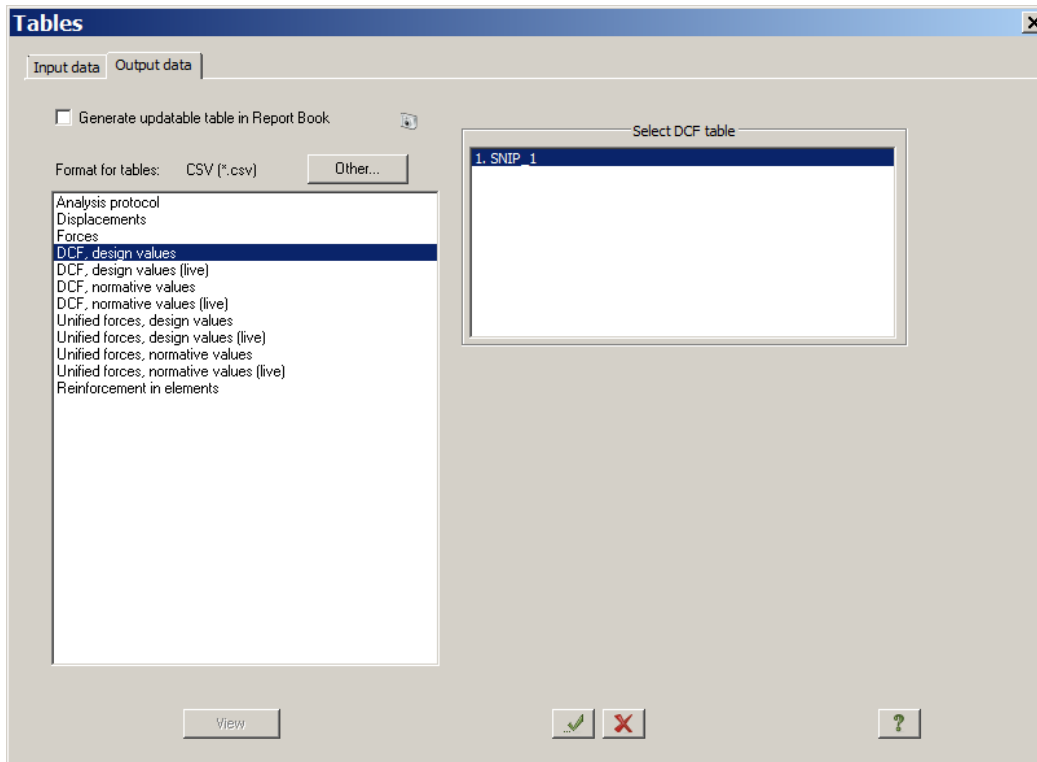

Figure 18.19 **Standard tables** dialog box
- ⇒ In the **Standard tables** dialog box (see Fig.18.19), select **Design combinations of forces, design values** in the list.